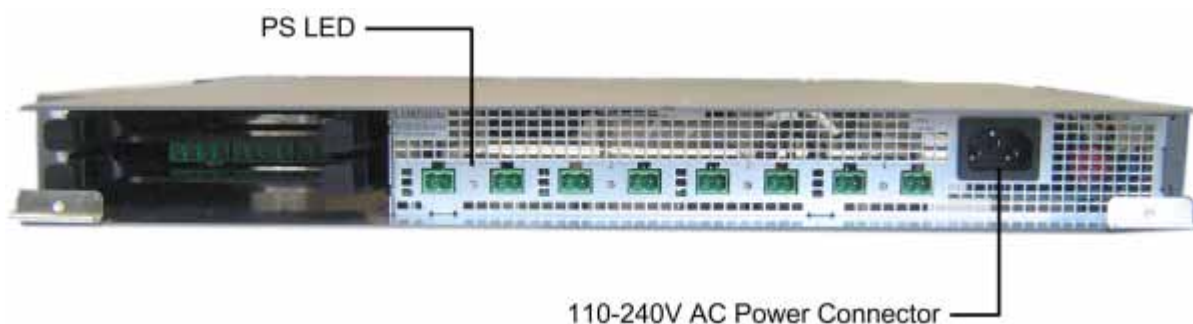

Figure 5-49. AC Power Connection and LEDs
2. Verify that the PS LED indicators (located between the corresponding DC connectors on the front panel) show green. Refer to Figure 5-49.